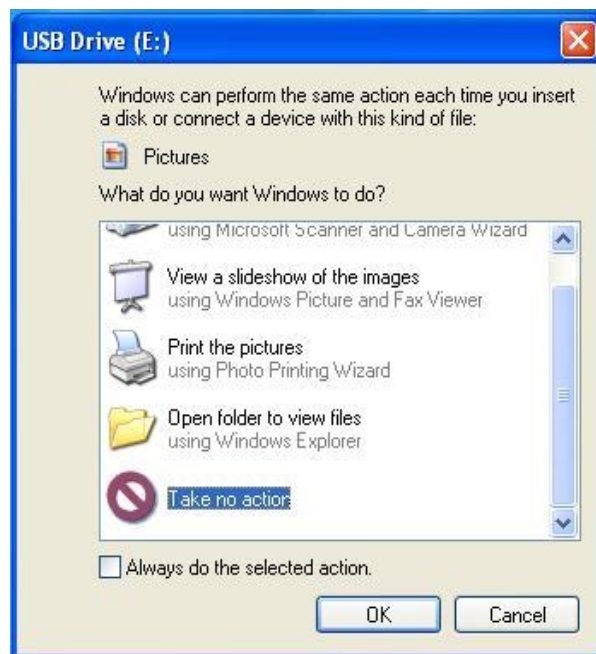

Figure B-8: USB Drive (E:) Screen
6. Reconnect all USB devices. The *USB Drive (E:)* screen will appear (Figure B-8).